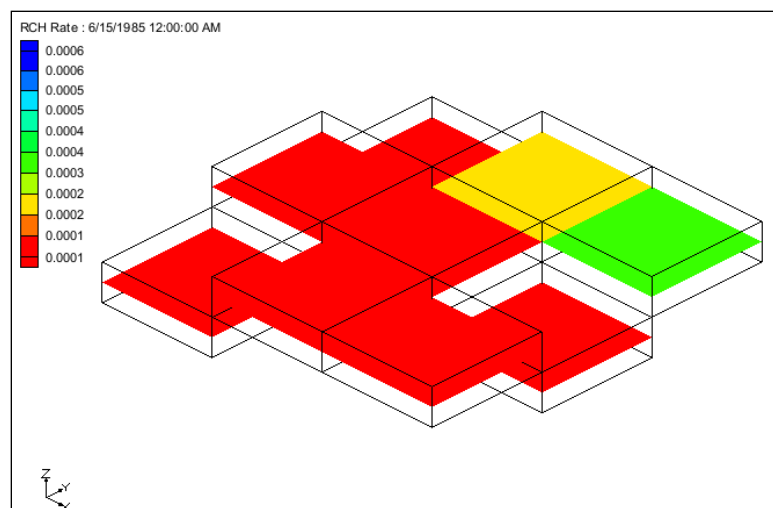

Figure 8 RCH rate contours
1. Select the  “RCH Rate” item in the Project Explorer to change the view (Figure 8).
The view will look like Figure 8.